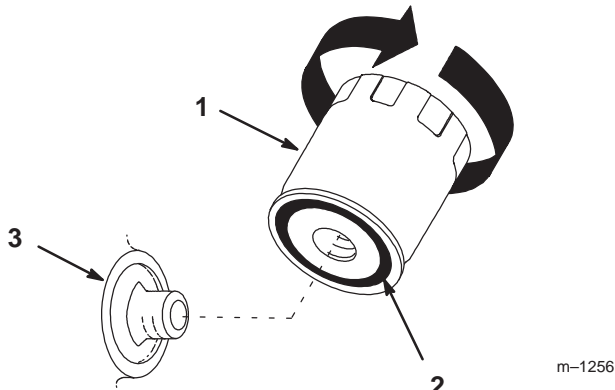

Figure 35
2. Remove the old filter and wipe the filter adapter (Fig. 35) gasket surface.
3. Apply a thin coat of new oil to the rubber gasket on the replacement filter (Fig. 35).
4. Install the replacement oil filter to the filter adapter. Turn the oil filter clockwise until the rubber gasket contacts the filter adapter, then tighten the filter an additional 3/4 turn (Fig. 35).